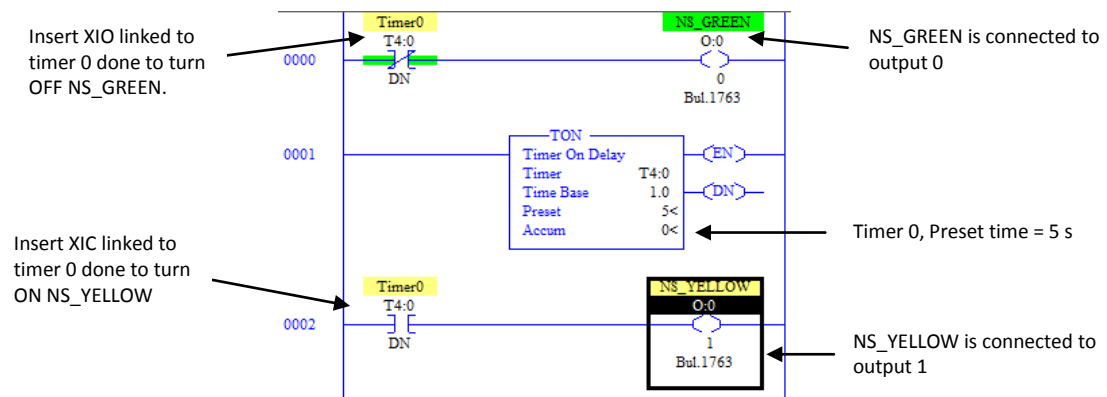

Figure 7: Timer 0 action. After 5 seconds Timer 0 will turn off the NS_GREEN output and Turn on the NS_YELLOW output.
- NS GREEN is on, timer 0 starts, after 9 seconds, NS GREEN is OFF, NS YELLOW is on. Ladder logic for this is made as shown in figure 7.
- Timer 0 should turn off NS RED after 9 seconds and Turn on NS GREEN. This logic can be implemented with a timer as shown in the figure 7.